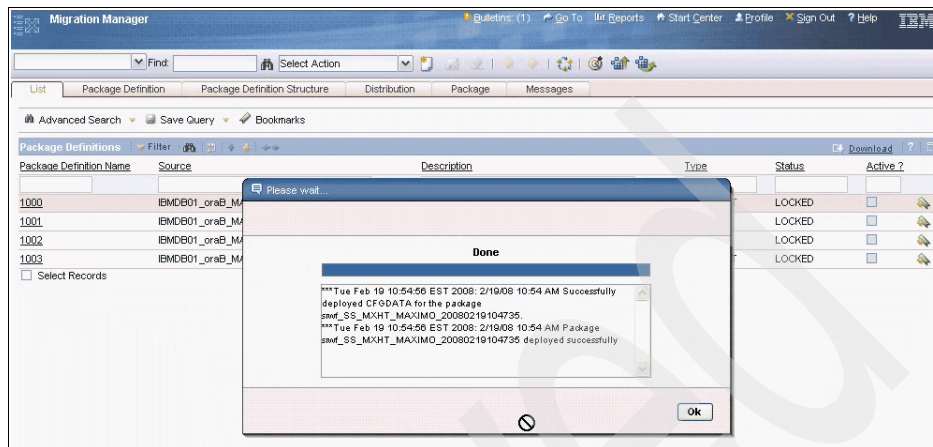

Figure 8-53 Package deployment successful
12. A new dialog box is displayed, showing the progress of package deployment. If deployment is successful, the result is displayed as in Figure 8-53.